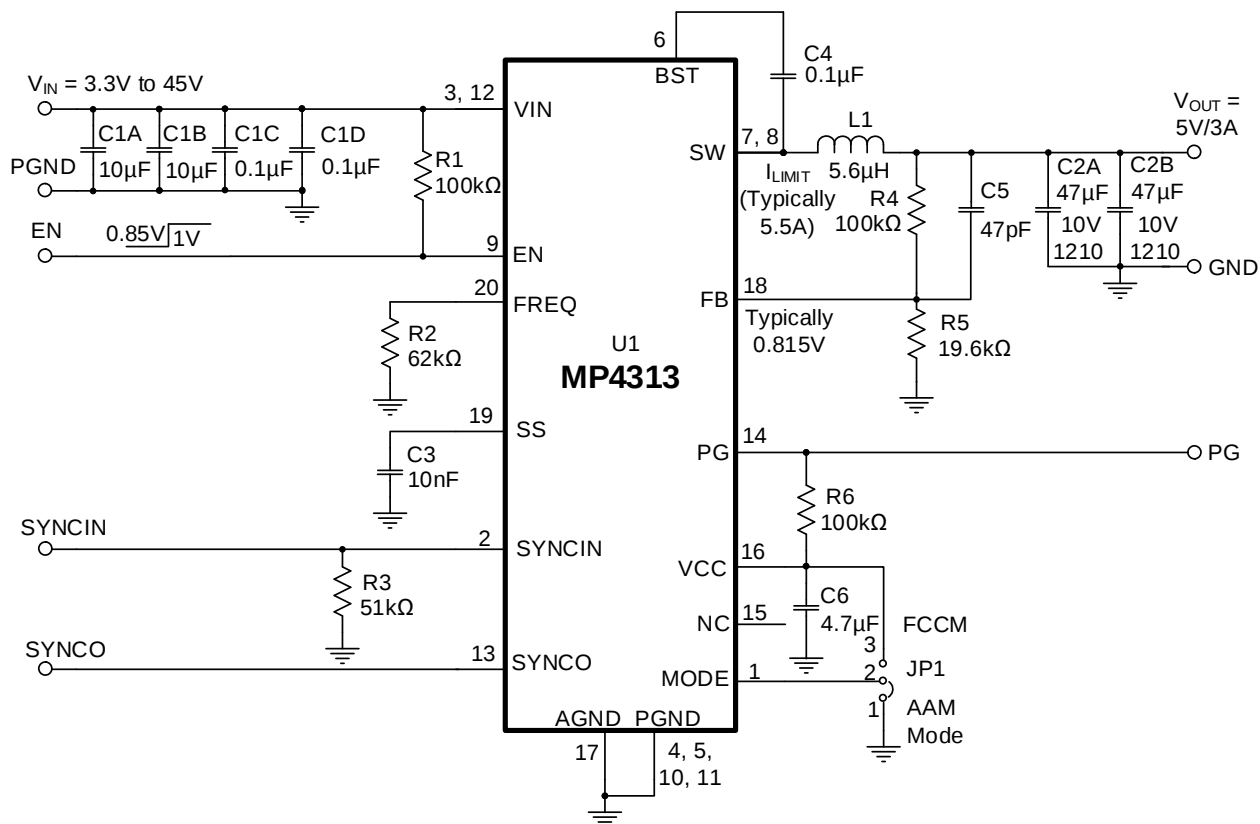

Figure 10: Typical Application Circuit ($V_{OUT} = 5V$, $f_{SW} = 470kHz$)
- 10) The recommended PCB layout is based on Figure 10 on page 32.